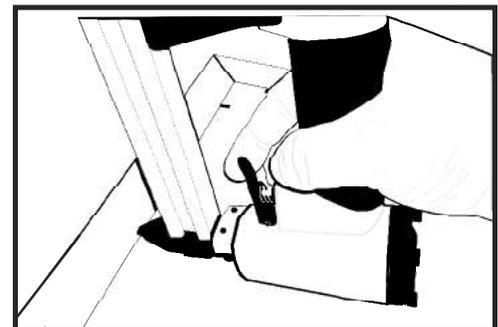

Fig 4
2. Rest the nose of the tool against the rabbet of frame with the tool inverted as shown. (Fig 4)